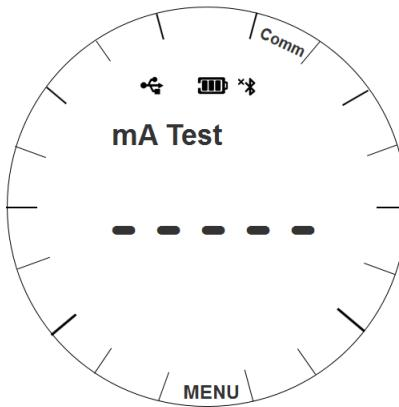

Figure 20 4-20mA loop current test interface
- When the 4-20mA module is enabled, the loop current test interface is shown in Figure 20. Click the main display area and set a value that within the current output range to enter the loop current test state.